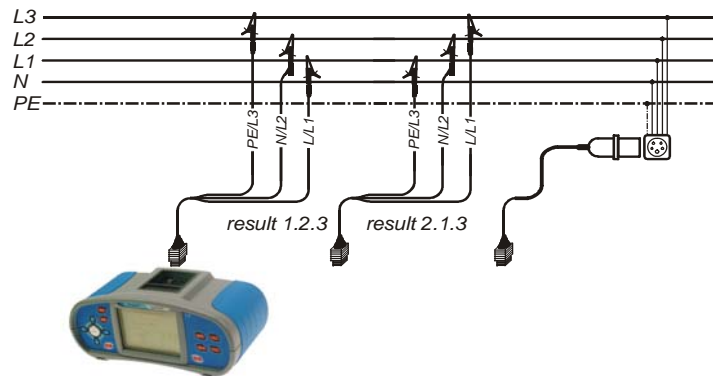

Figure 5.45: Connection of universal test cable and optional adapter in three-phase system
- ❑ **Connect** test leads to the tested object (see figures 5.45 and 5.46).